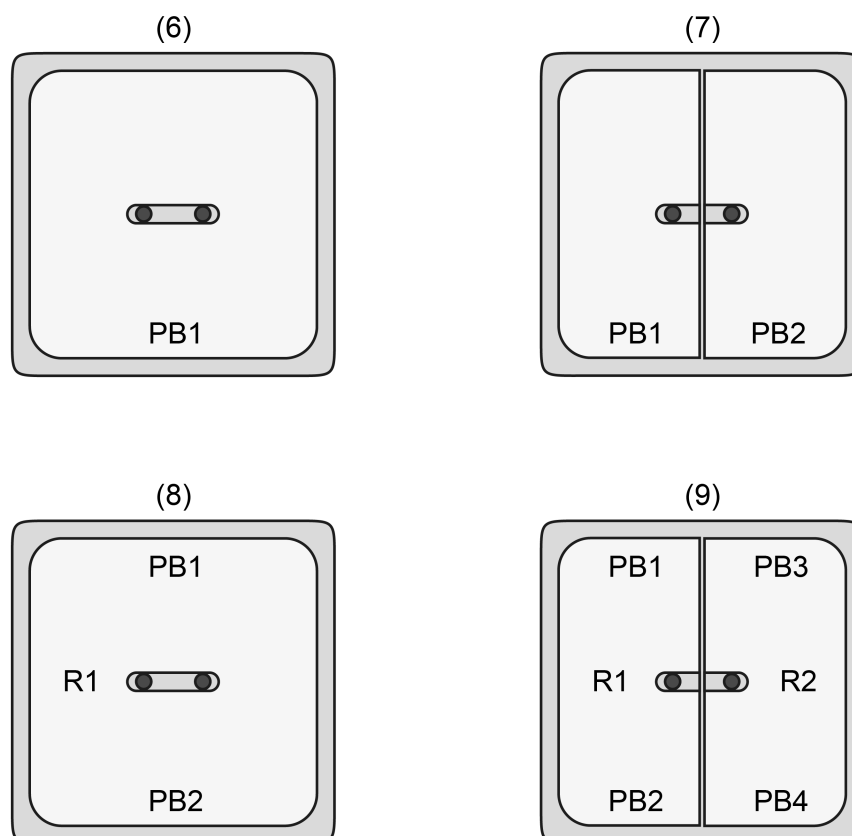

Figure 4: Position of the rocker switches, buttons and status-LED of the device variants
In the push-button bus coupler, switches are used depending on the device version - 1-gang or 2-gang - rocker switches or two-circuit switching rockers (figure 4). In the "neutral position" device version ((8) + (9)), the rocker switch can be operated on both sides (top or bottom). In the ETS, the operation concept can then be configured to rocker function (the same KNX function on both control elements) or alternatively to push-button function (the same or different KNX functions on the control elements). In the "neutral position" version, the rocker switches are upright when they are not pressed.